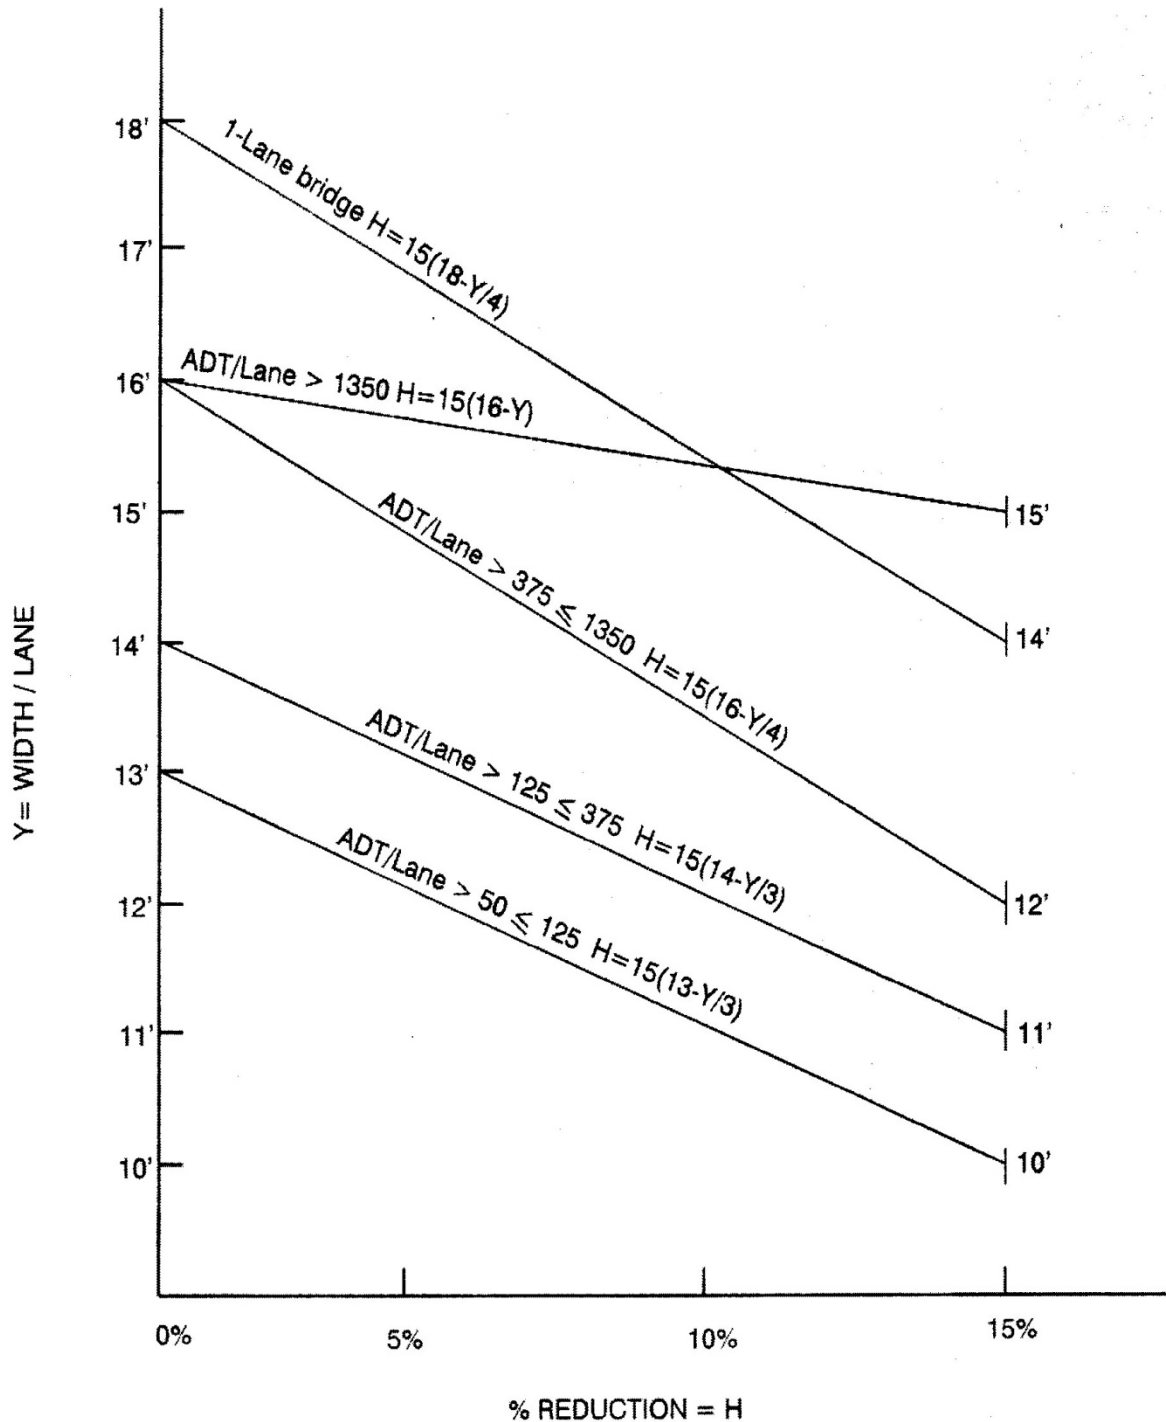

Figure 3. Width of Roadway Sufficiency
- (2) For 1-lane bridges only, use Figure 3 or the following:
- (4) For all except 1-lane bridges, use Figure 3 or the following: